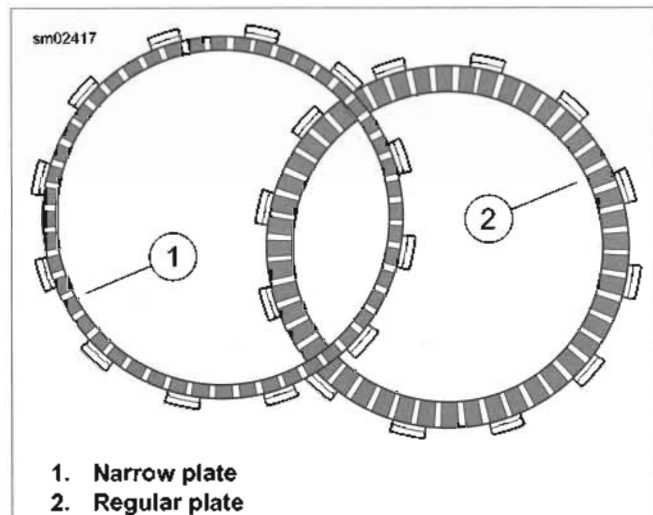

Figure 5-29. Friction Plates
1. See Figure 5-29. Install the narrow friction plate on the clutch hub.